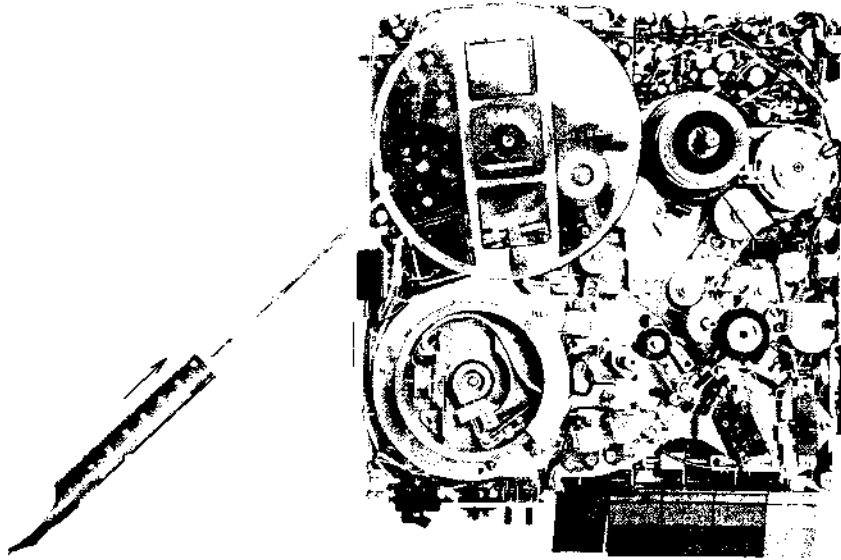
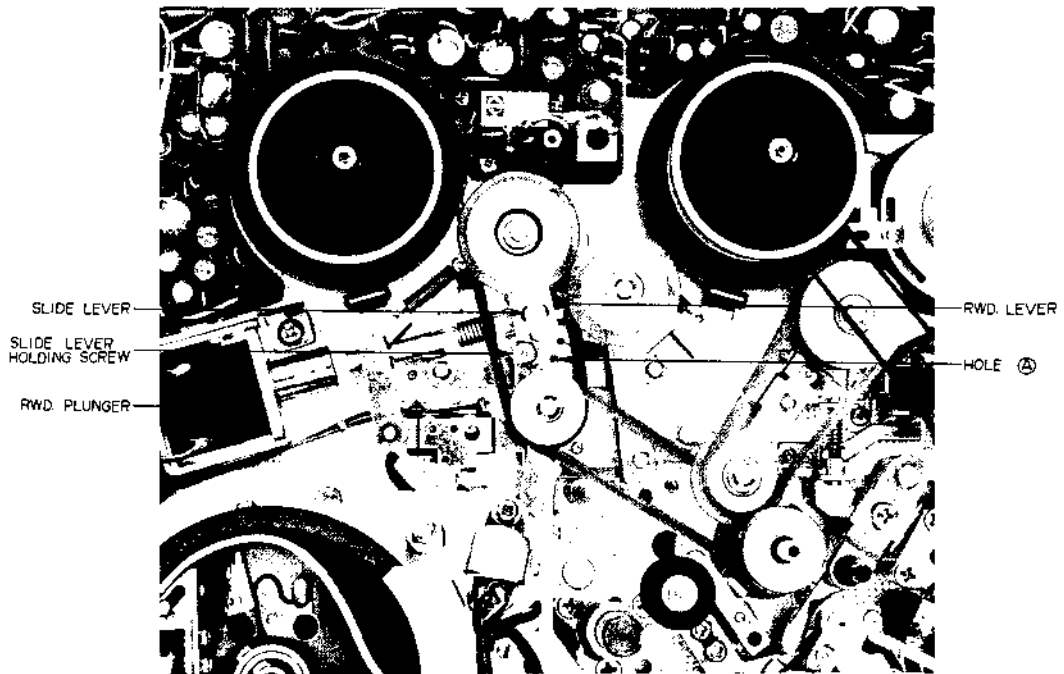
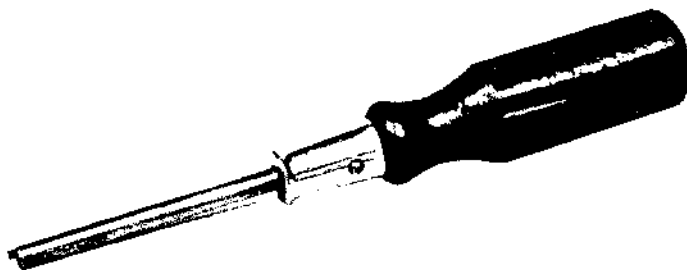

Fig. 1-12
Fig. 1-13
Fig. 1-14
- b) As shown in Fig. 1-12, use the same reel as in Item (a) above and set on supply reel table. Also, using the same method as in Item (a) above, measure torque at rewind mode. It is satisfactory if rewind torque is within 200 to 300g.
(8) REWIND PLUNGER ADJUSTMENT
As shown in Fig. 1-13, when the pin of adjustment driver (Refer to Fig. 1-14) is fitted in hole ① of rewind lever and the slide lever holding screw is at a slightly loosened condition, rewind torque can be adjusted by turning the adjustment driver and changing the angle of the slide lever. If rewind torque is within specifications, tighten slide lever holding screw.